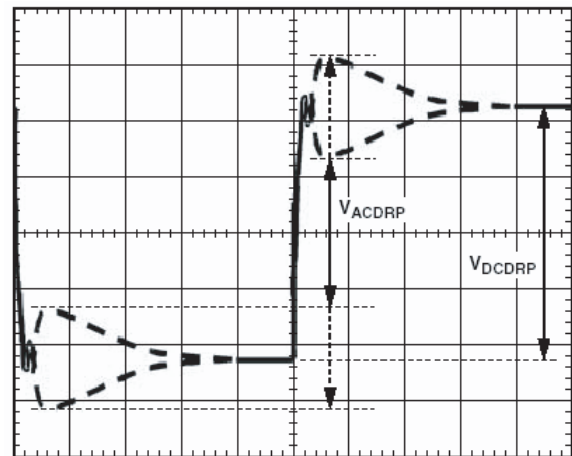
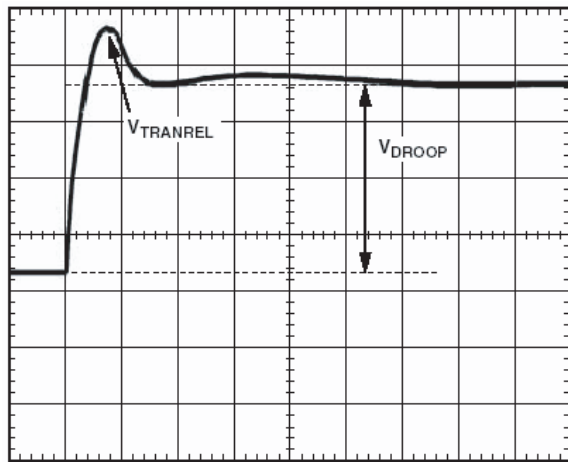

Figure 9. Transient Setting Waveform
Figure 10. Transient Setting Waveform
19. With dynamic load still set at maximum step size, expand the scope time scale to see 2µs/div to 5µs/div. You will see a waveform that may have two overshoots and one minor undershoot (see Figure 9). Here, V_{DROOP} is the final desired value.
21. For load release (see Figure 10), if V_{TRANREL} is larger than V_{TRAN1} (see Figure 9), you do not have enough output capacitance. You will either need more capacitance or need to make the inductor values smaller (if you change inductors, you need to start the design over using the spreadsheet and this tuning procedure).